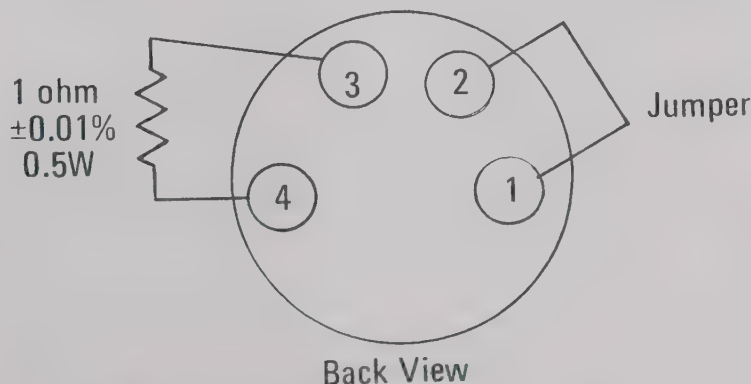

Figure 7. Test Plug connections (1 ohm).
3. Test Plug with 1 ohm $\pm 0.01\%$ resistor, see Figure 7.